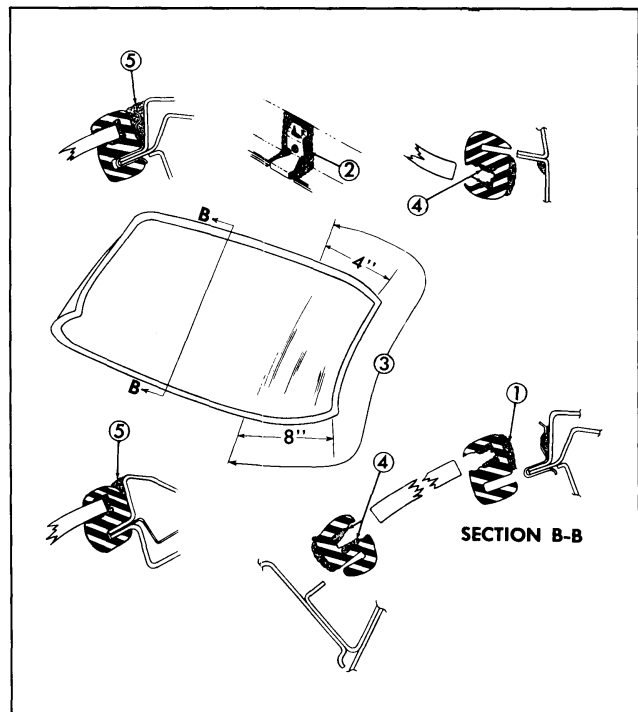

Fig. 2-9 Windshield Sealing
4. Apply a ribbon of medium-bodied sealer completely around base of rubber channel (No. 1 Fig. 2-9).
5. Inspect condition of each molding clip, install new clips where necessary, make certain clips are properly sealed to pinchweld and body (No. 2 Fig. 2-9) except 67 styles.
9. Using a pressure type applicator, seal inner and outer lips of rubber channel to glass with an approved weatherstrip adhesive (No. 4 Fig. 2-9). Seals must extend completely around rubber channel.
11. Apply medium-bodied sealer on outside of windshield between windshield rubber channel and opening across top and sides (No. 5 Fig. 2-9).
5. Using a pressure type applicator, seal inner and outer lips of rubber channel to glass with an approved weatherstrip adhesive (No. 4 Fig. 2-9). Seals are to extend completely around rubber channel.
6. On outside of windshield, apply medium-bodied sealer between windshield rubber channel and opening across top and sides (No. 5 Fig. 2-9).